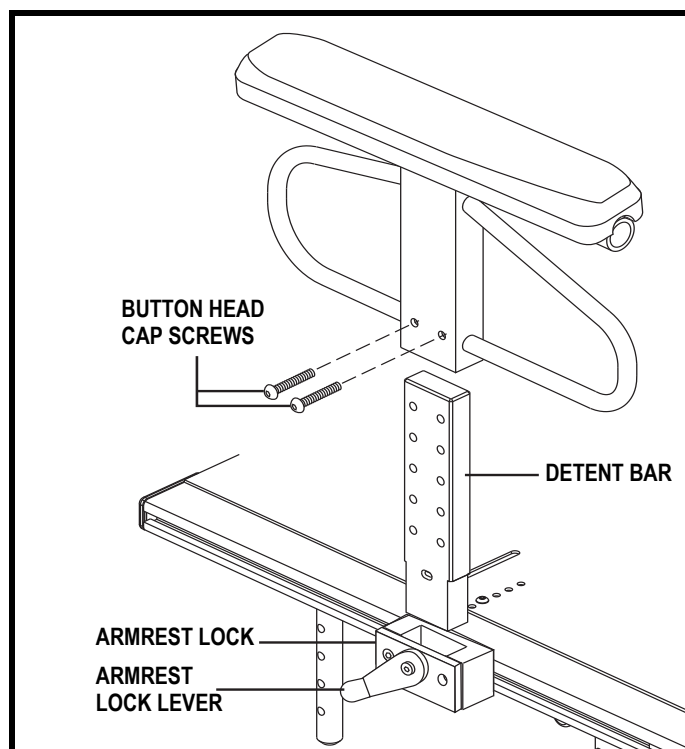

Figure 13. Armrest Height Adjustment
1. Rotate the armrest lock lever rearward and remove the armrest from the armrest lock. See **figure 13**.